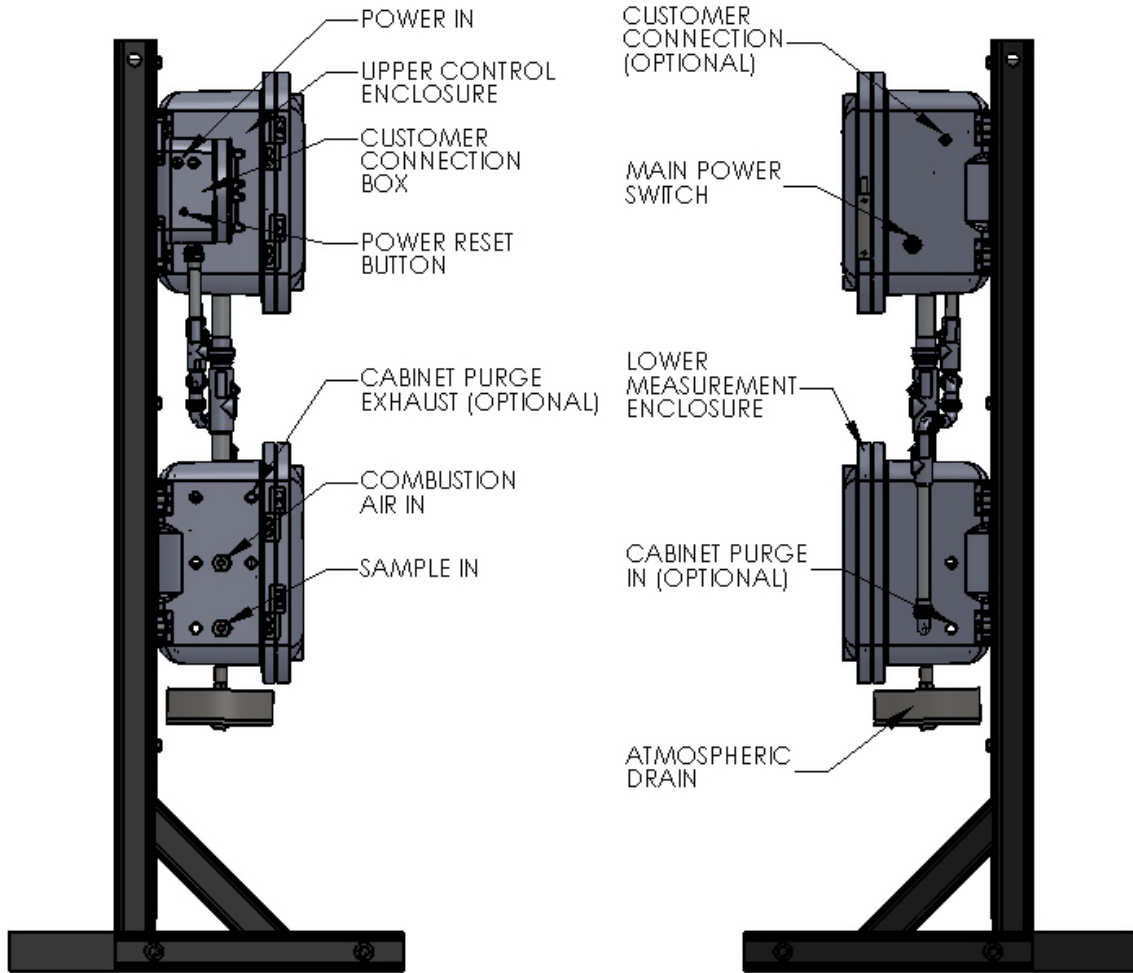

Figure 3-2: Left and Right Side Views
See Figure 3-2.
The P-500's sample inlet is located on the left side of the analyzer's measurement enclosure. This line should be connected to the 1/4 inch NPT fitting labeled "Sample In" (see Figure 3-2). Process samples should be provided at a pressure between 1.4 and 10 bar (20 and 150 psi) at a flow rate of 10 to 50 cc/minute. The temperature of the sample should be at least 5°C (9°F) below the expected flash point temperature and no more than 35°C (63°F) below the expected flash point temperature while remaining under the maximum process temperature of 100°C (212°F).
Clean, dry instrument air is required for proper analyzer operation. It should be supplied to the analyzer at a controlled flow rate between 100 and 500 cc/minute. The instrument air line is connected to the 1/4 inch NPT fitting labeled "Combustion Air" on the left side of the measurement enclosure (see Figure 3-2).
The Measurement enclosure incorporates an atmospheric drain that should be piped to a collection vessel for the recovery of spent sample. This drain is located at the bottom of the right of the measurement enclosure. Figure 3-2.
7. Place the Power Switch on the right side of the electronics enclosure (Figure 3-2) in the 'on' position.